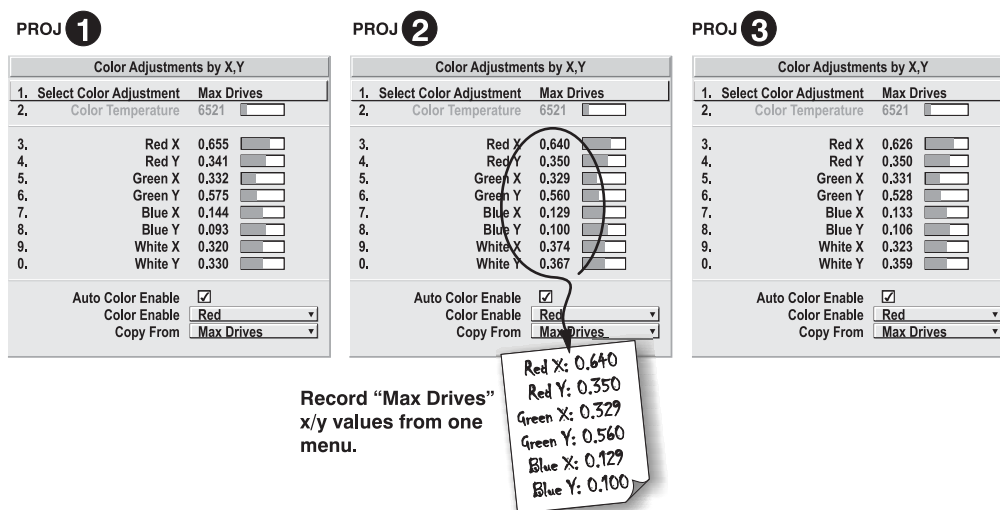

Figure 3.28. Jot Down a Set of "Max Drives" X/Y Values
4. Display the *Color Adjustments by X,Y* menus for all projectors. Each menu shows the x/y coordinates defining the "Max Drives" color gamut for this projector. Write the values shown in any one of the displays. See Figure 3.28. Or use the "Copy From" function to copy them into a "User" gamut in one projector.